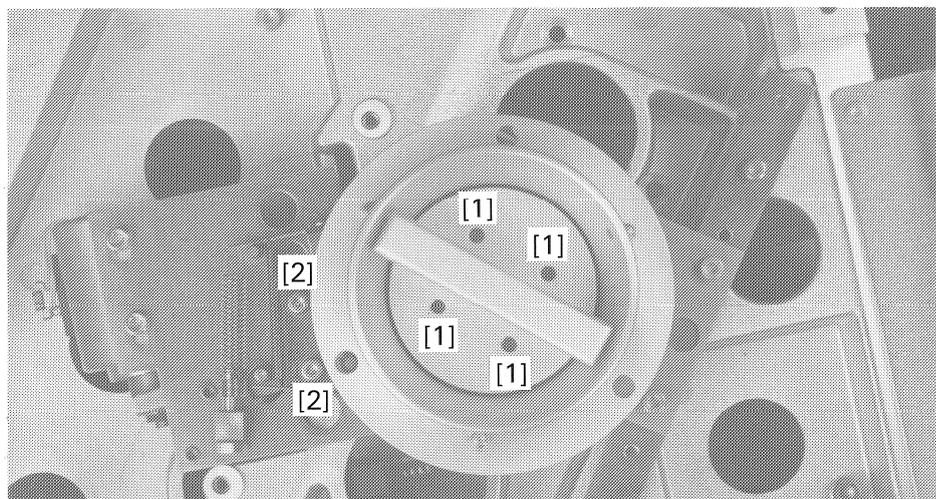

Fig. 54 Reel adapter
- Unfasten the three locating screws (hexagon-socket-screw key 3 mm).
- Unfasten the four 3 mm hexagon-socket-head screws [1] through the holes next to the knob. Carefully lift out the entire adapter (see Fig. 54).
- To remove the brake assembly unfasten the two 3 mm hexagon-socket-screw keys [2], Fig. 54.